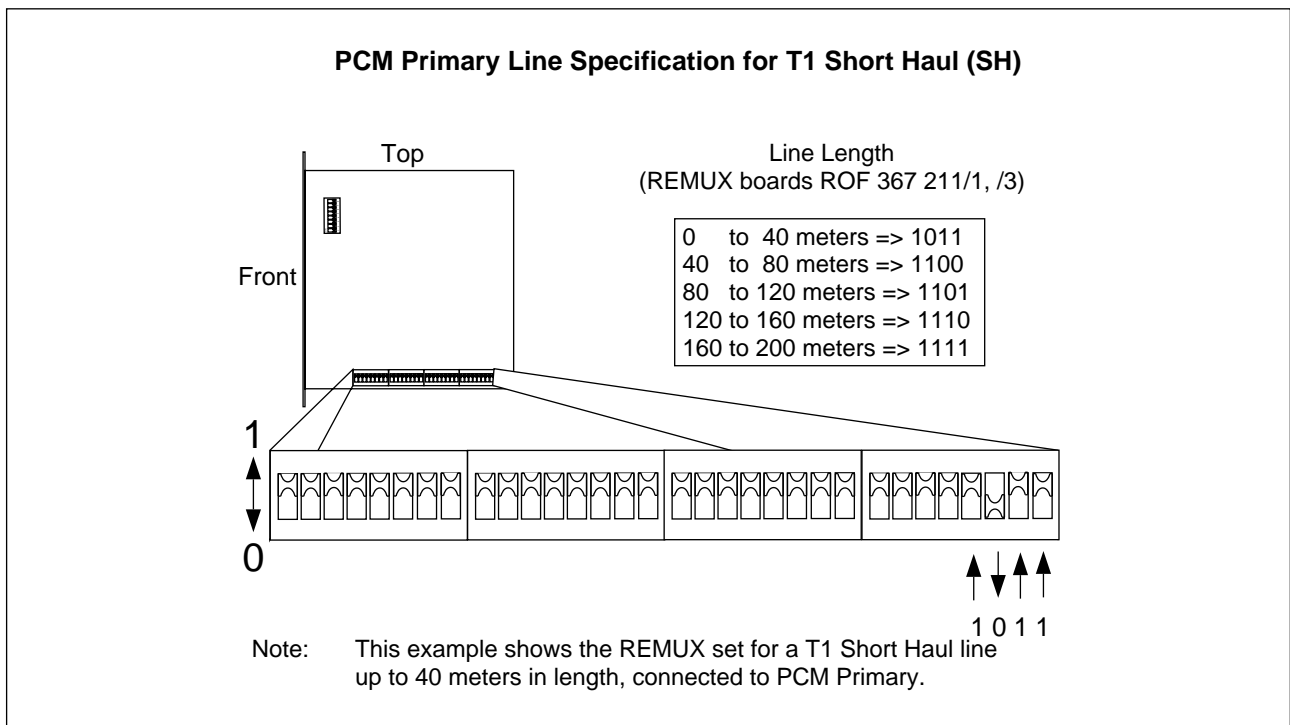

Figure 4-23. Settings for the PCM Primary Line Specification, T1 Short Haul
- If line length is used (T1 Short Haul), see Figure 4-23 on page 4-43.